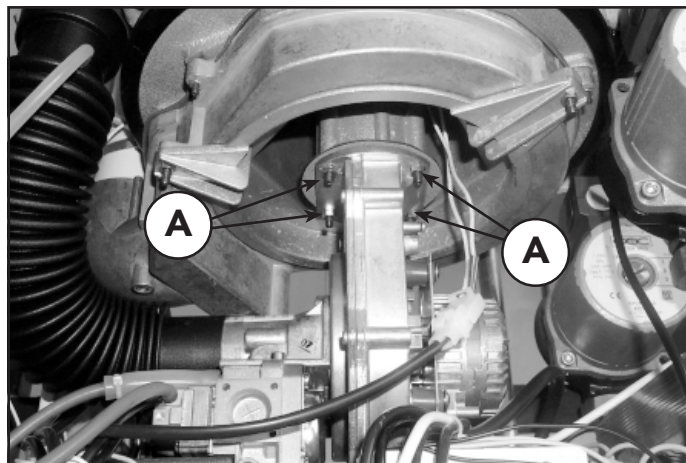
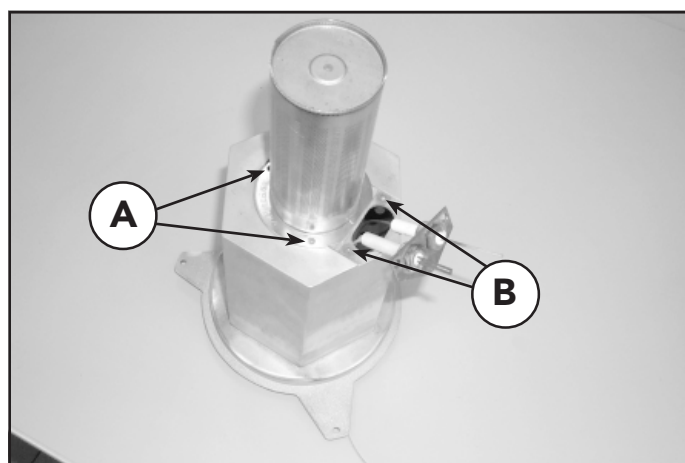

Fig. 25
Fig. 26
- Remove the ignition device "A" (fig. 26) from the valve body, removing the fastening screw "B" (fig. 25)
- Unscrew the four nut "A" fixing the fan (fig. 25)
- To change the burner, remove the three fastening screw "A" (fig. 26)